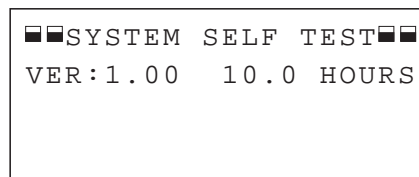

Figure 9-2 Self-Test Screen
- STEP 3** When the Self-Test screen appears (See Figure 9-2), press .